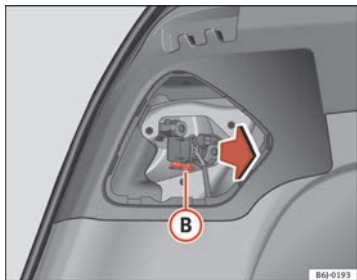

Fig. 151 Removing the bulbholder
- Remove the bulbholder by pressing the clip **B** ⇒ fig. 151 and pulling outwards.